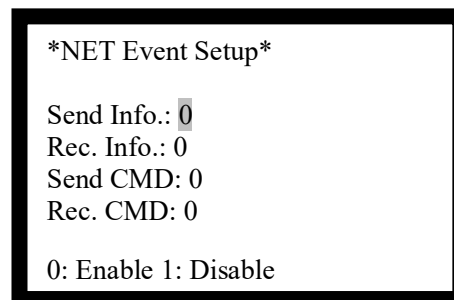

Fig. 6-45
- ✧ Set the panel to display network message or not by entering number 2, as shown in Fig. 6-45.